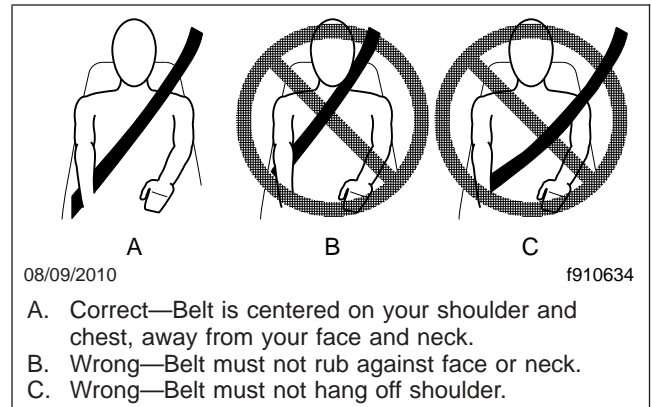

Fig. 5.9, Proper Shoulder Strap Fit
3. Position the shoulder strap diagonally across your chest with the adjustable D-loop bracket (if equipped). The shoulder strap must be centered on your shoulder and chest, away from your face and neck. See **Fig. 5.9**. If desired, engage the Komfort Latch as follows.
5. Position the shoulder strap diagonally across your chest with the adjustable D-loop bracket (if equipped). The shoulder strap must be centered on your shoulder and chest, away from your face and neck. See **Fig. 5.9**.